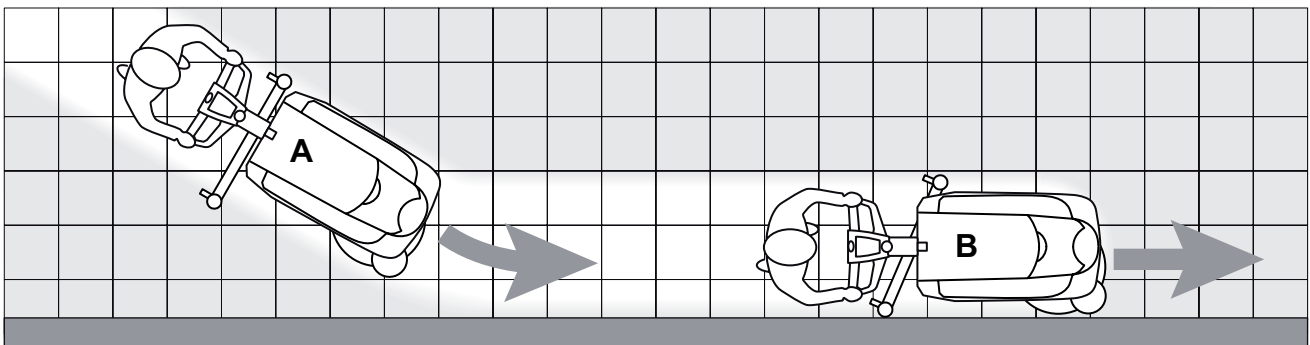

Figure 2
*For correct scrubbing/drying of floors at the sides of the walls, Nilfisk suggests to go near the walls with the right side of the machine as shown in figure 2.*